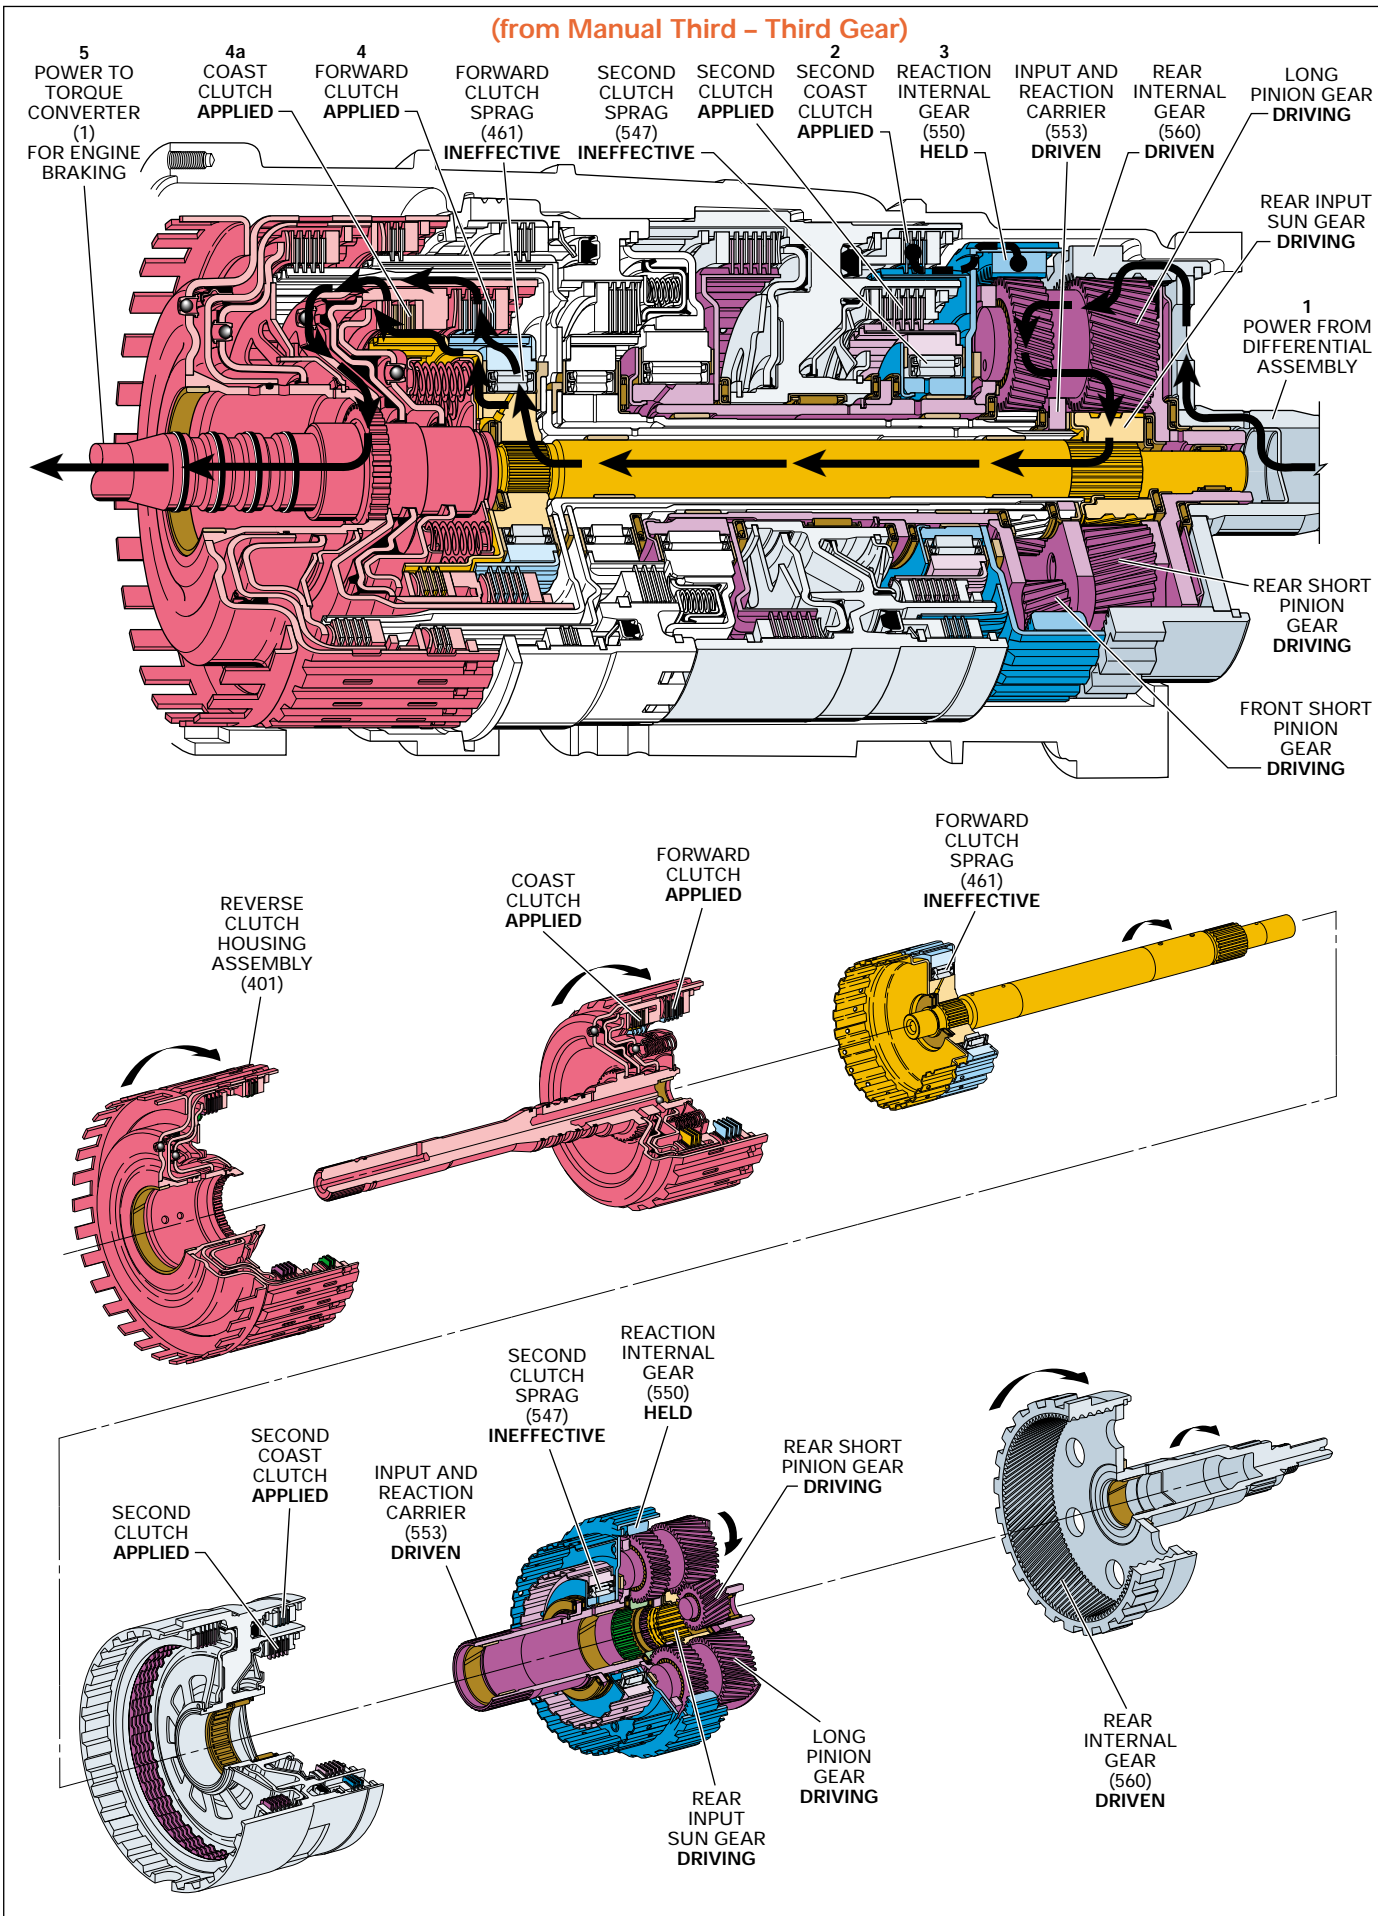

Figure 76
*Note: Transfer of engine torque during acceleration is identical to Overdrive Range - Second Gear (refer to page 66A) to obtain an approximate gear ratio reduction of 2.21:1 through the transmission gear set. The power flow in Figure 76 and the following text describes conditions during deceleration (zero or minimum throttle) and how engine compression braking is achieved.*
Vehicle speed provides the torque input to the transmission through the drive shaft and transmission output shaft assembly (562). This is shown by the direction of the power flow arrows in the drawing at the top of Figure 76. Notice that this flow is identical to Overdrive Range - Second Gear except that the arrows are in the opposite direction.